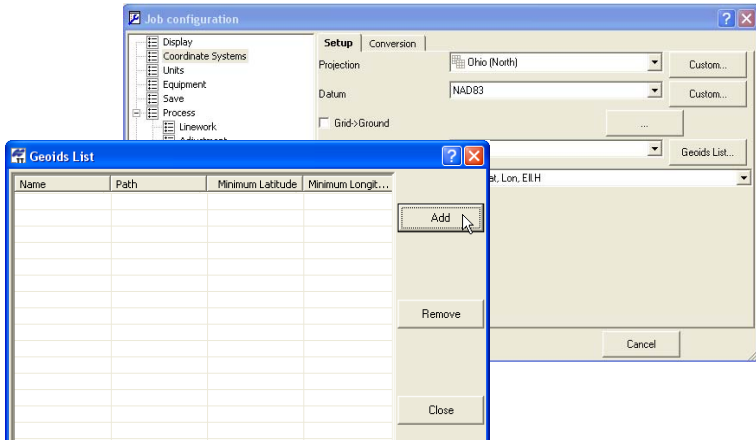

Figure 2-23. Add Geoids List
1. Click the **Geoids List** button to import a geoid model to Topcon Tools. Click **Add** to open a geoid (Figure 2-23).